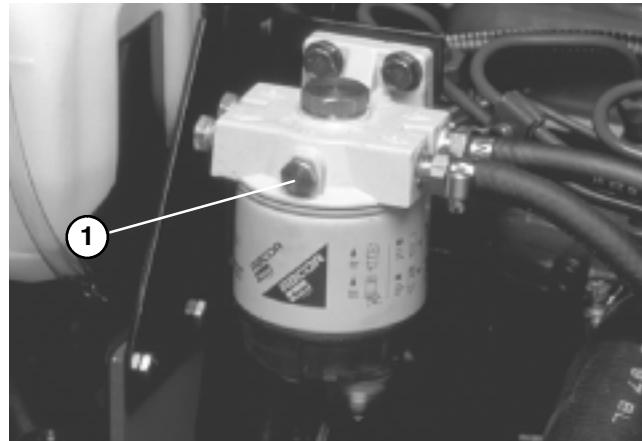

Figure 29
### BLEEDING FUEL SYSTEM (Fig. 29 – 31)
2. Loosen air bleed screw on top of fuel filter/water separator (Fig. 29).